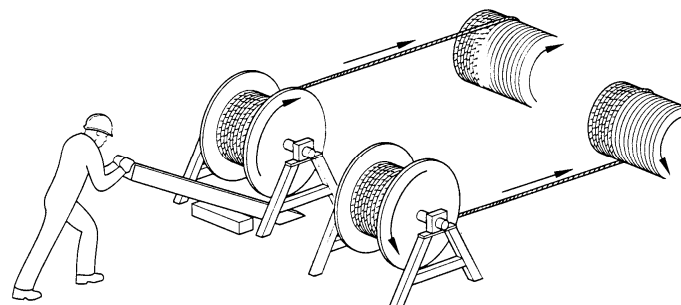
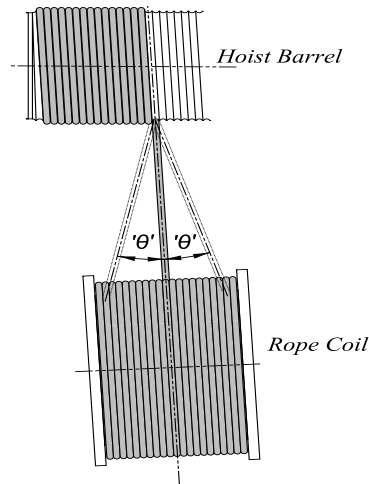

Figure 35 – Winding of new wire ropes
Figure 36 - Fleet angle
If it is not possible to uncoil the rope prior to fitting, the rope may be transferred directly from the reel to the hoist barrel. Place the reel on a suitable stand and ensure that the reel can rotate freely. When winding from reel to barrel the rope should be bent in the same direction. Wind from top of reel to top of barrel or from bottom of reel to bottom of barrel (see Figure 35).
- Transfer the new rope onto the hoist barrel. Ensure that sufficient tension is applied to the reel to prevent loops from forming. Tension can be applied with suitably gloved hands or with a brake on the reel (see Figure 35). During installation, also ensure that the fleet angle θ does not exceed $1\frac{1}{2}^\circ$, (see Figure 36).